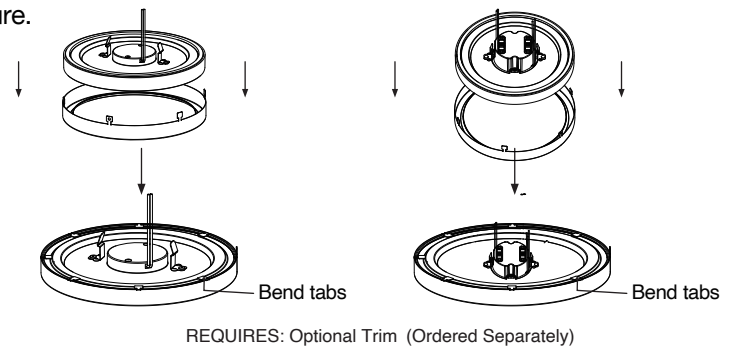

Fig. 1
2. (Optional) Fixing the color trim to the fixture by bending all tabs inwards. (Fig. 1)